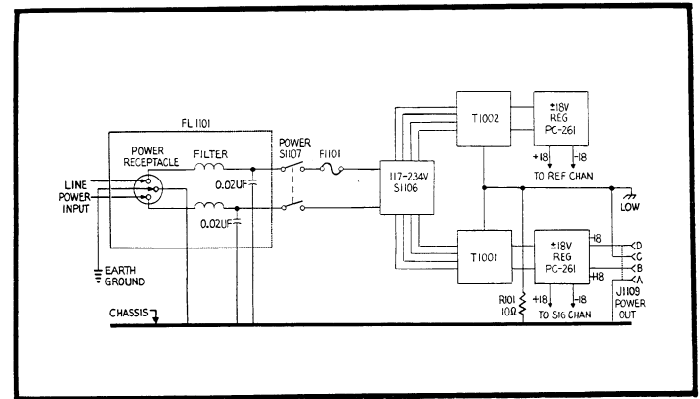

FIGURE 13. Line Power Connections.
For maximum operator safety, connection should be made to earth ground through the third terminal provided on the line power cord. The line voltage is filtered by twin L-C filters as shown in Figure 13. Since the chassis is connected to each side of the line through a .02 μ F capacitor, the chassis will float at 1/2 line potential if the power ground terminal is not connected to earth ground.
g. ACCESSORY POWER Receptacle (J1109). This receptacle can be used to supply power to an accessory instrument such as Keithley Model 103A Nanovolt Amplifier. The receptacle is an Amphenol 126-1430 connector which mates with Keithley Model 1083 Power Cable. The four terminals are designated A, B, C and D as shown in Figure 13.